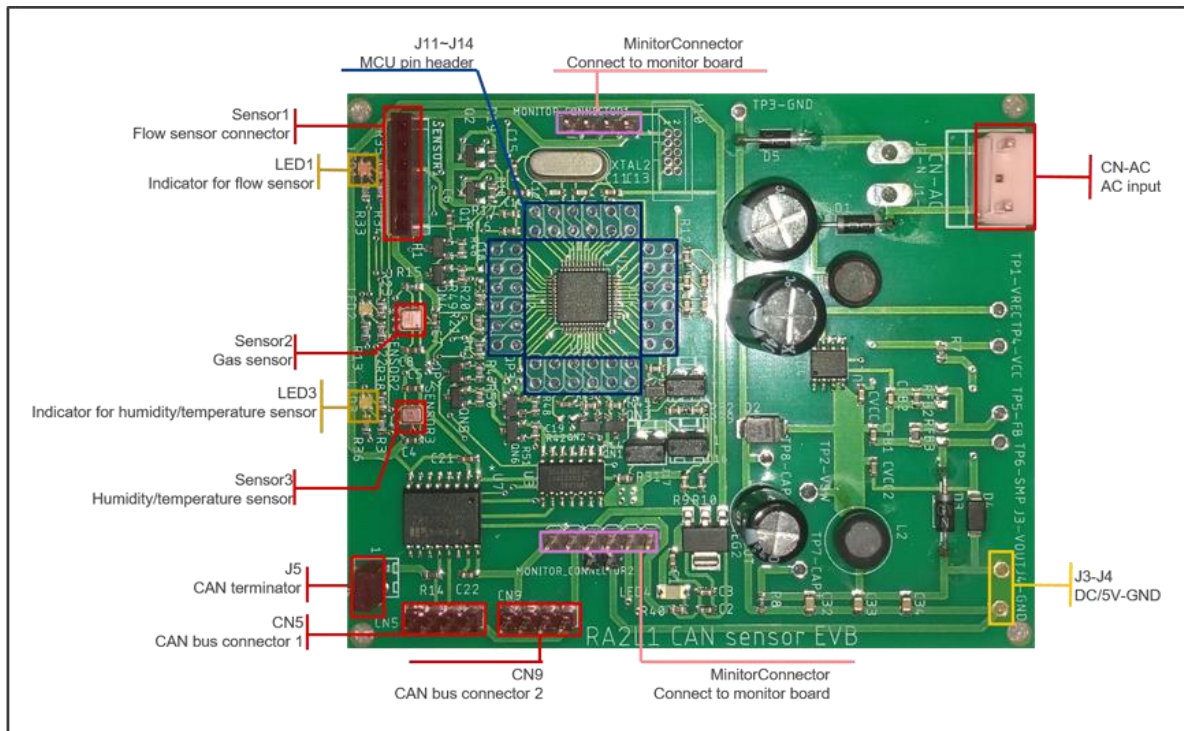

Figure 2-1 RA2L1 CAN Sensor EVB Top View
2.1 Figure 2-1 is the top view of RA2L1 CAN Sensor EVB.